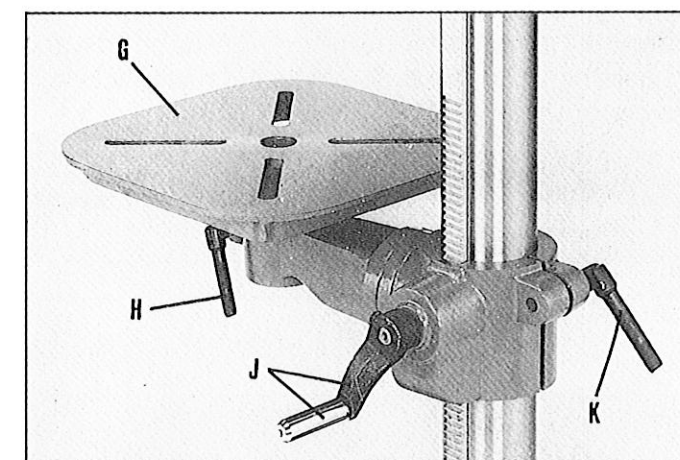

Fig 7
6. Assemble table (G) to table bracket, as shown in Fig. 7, and lock in place using the table rotating lock screw (H).
7. Assemble table raising handle (J), and table bracket lock screw (K), as shown in Fig. 7.